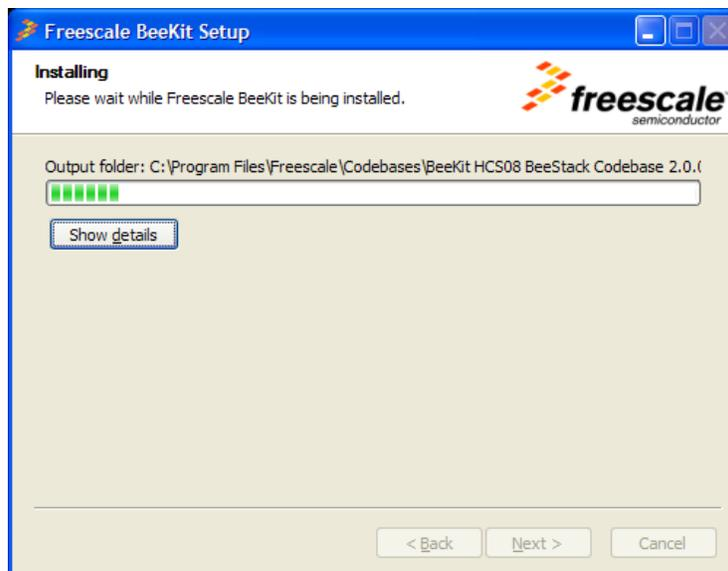

Figure 1-5. File Installation Progress
8. The Setup status displays a progress bar and the actual progress of file copying (Figure 1-5) while the BeeKit package is installing.